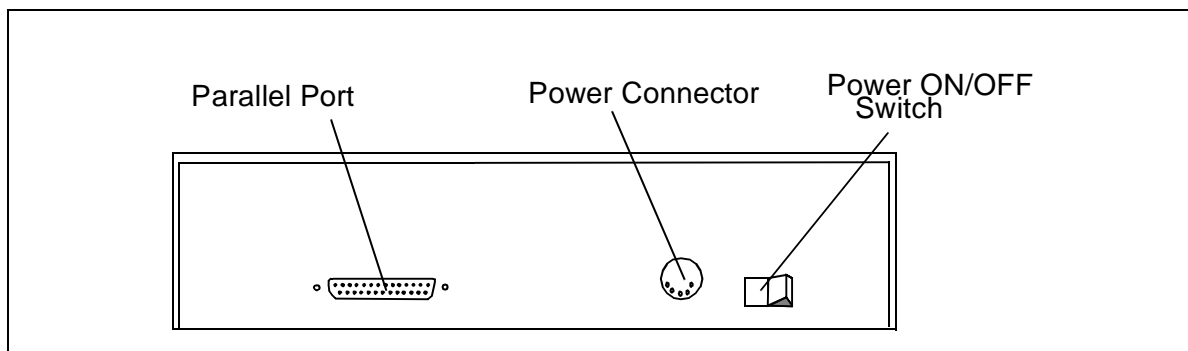

Figure 2: ST62GP-EMU2 Back Panel
- 4 Connect the parallel interface cable to the parallel port connector on the back panel of the ST62GP-EMU2 (See *Figure 2*).
- 1 Plug the power jack from the power adapter to the power connector on the ST62GP-EMU2 back panel (refer to *Figure 2* on page 11).
- 5 Switch on the ST62GP-EMU2 using the power switch on the back panel (see *Figure 2*).